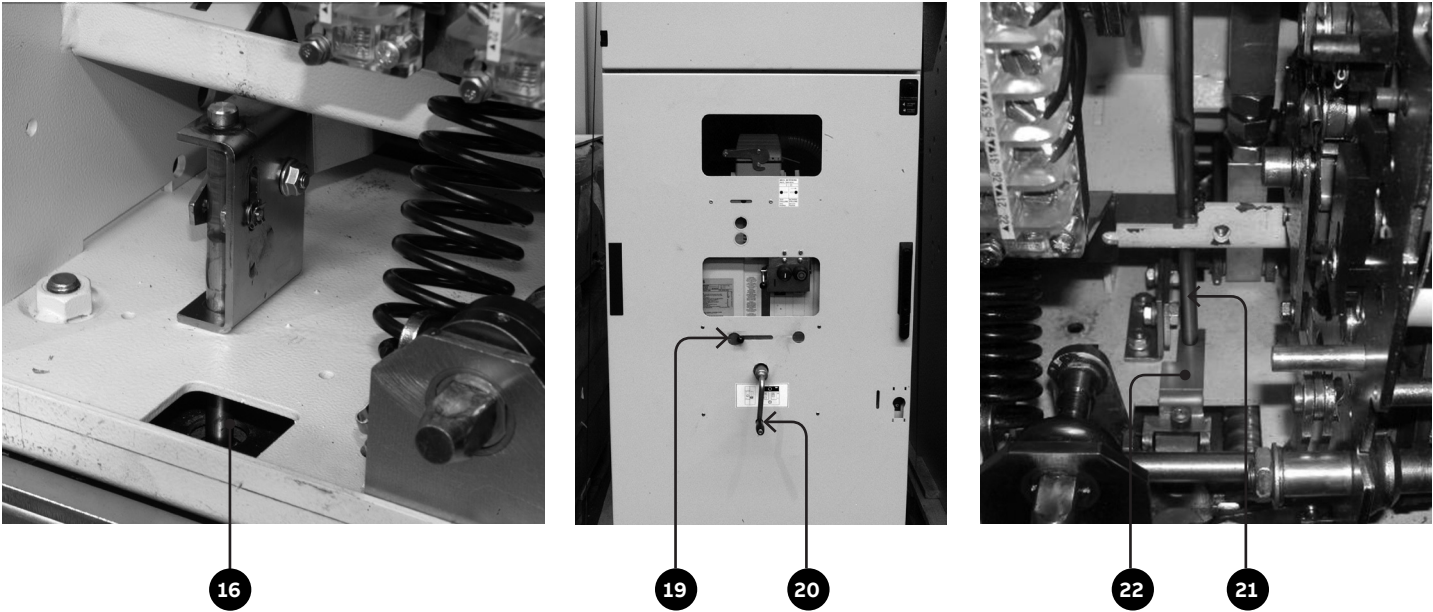

Fig. 5c
The withdrawable circuit breaker is fitted with special locks, described below (see fig. 5c - 5d).
With the circuit breaker closed, the feeler pin (16 - fig. 5c) prevents the shutter sliding (19 - fig. 5c) and therefore insertion of the lever (20 - fig. 5c) for traverse of the apparatus.
When the plug is not inserted in the socket (13), the stem (21 - fig. 5c) prevents the plate (22 - fig. 5c) lifting and traverse of the apparatus.